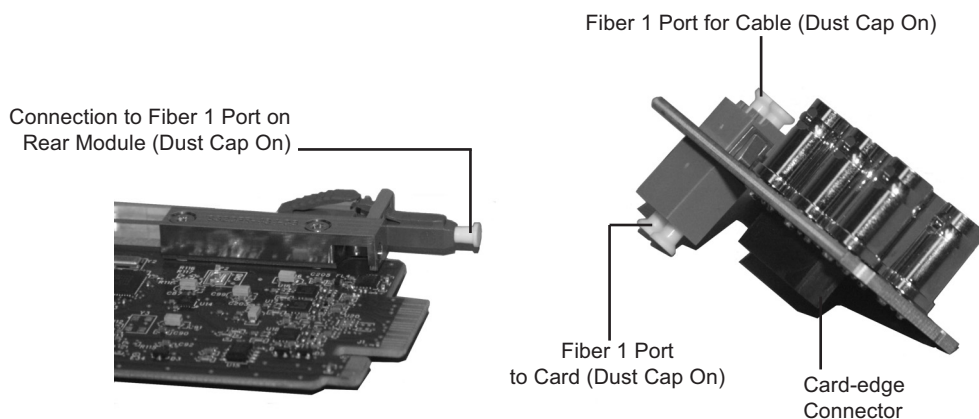
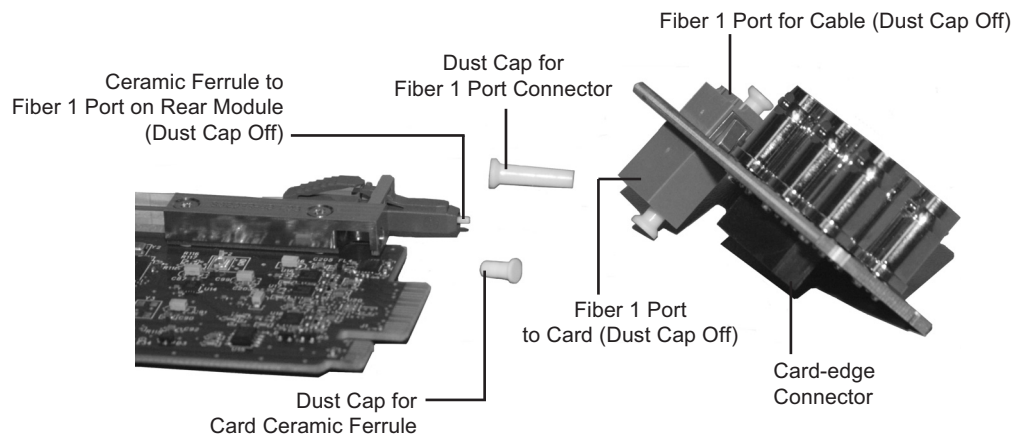

Figure 2.1 Card Connectors with Dust Caps Installed — 8320AR-044 Rear Module Shown
Figure 2.2 Card Connectors with Dust Caps Removed — 8320AR-044 Rear Module Shown
- Connectors must always be inserted into a device or have a dust cap on. Refer to **Figure 2.1** for dust cap locations.
3. Remove the two dust caps from the fiber ports on the rear module that face the interior of the frame. Refer to **Figure 2.2** for dust cap locations.
- Refer to **Figure 2.1** and **Figure 2.2** for dust cap locations.